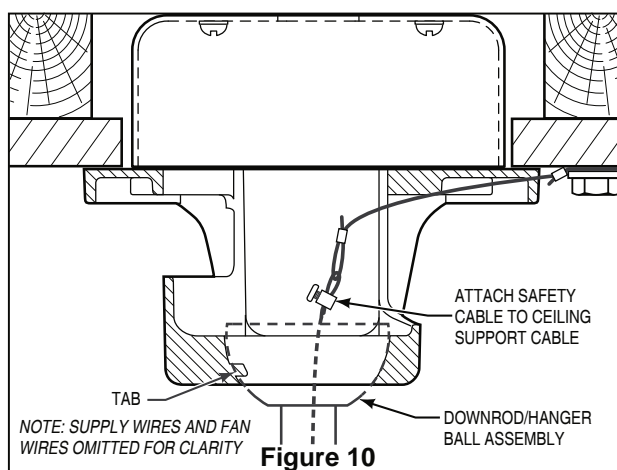

Figure 10
5. Attach the safety cable to ceiling support cable. Slide cable clamp onto safety cable (from fan). Place the end of cable through the loop of ceiling support cable. Pull as much cable through loop as possible. Feed end of cable into clamp hole and firmly tighten screw (Figure 10).